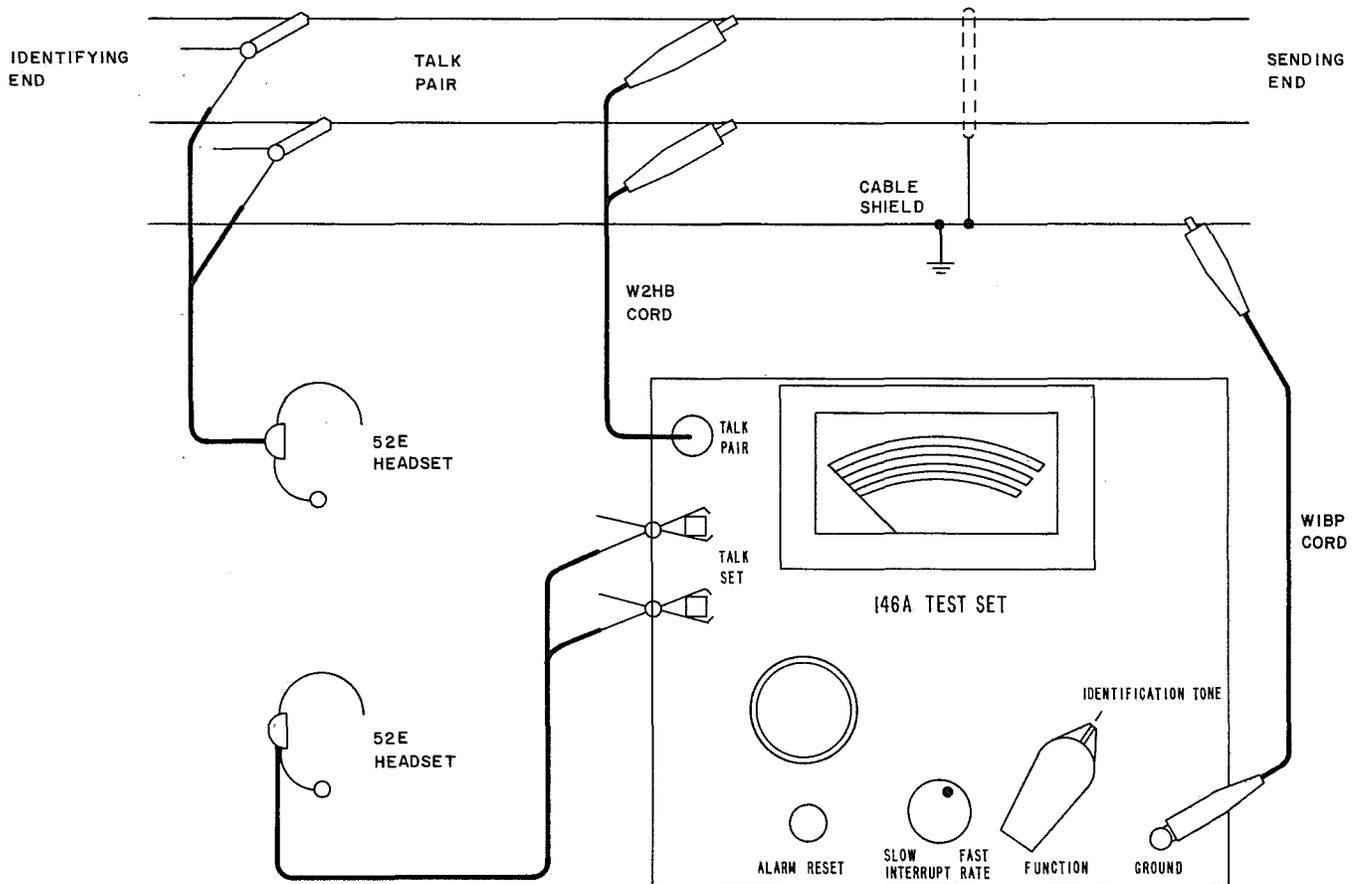

Fig. 6—Establishing a Talking Circuit Over a Previously Identified Pair
- 4.03** Plug the W2HB cord into the TALK PAIR jack (Fig. 6).